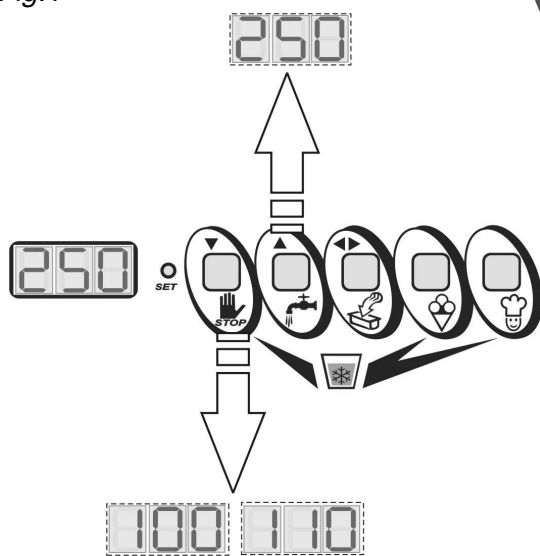

Fig.2
- The LEDs of the UP (▲), Conferma (Confirm) (◀▶) and DOWN (▼) keys light up and the numbers relative to the consistency setting to be configured, expressed by a numerical value between 60 and 250, appear on the display: press the “UP (▲)” and “DOWN (▼)” keys to increase or decrease this value (Fig. 2). Higher consistencies correspond to high numbers, lower consistencies correspond to low numbers.